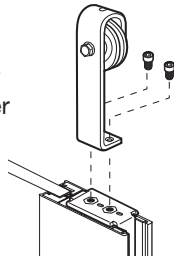

Figure 10
Line up the holes on the Roller Bracket (O) with the U bracket (G) and secure with the 2 allen screws (Y). Repeat with the other Roller bracket (O). See Figure 10.